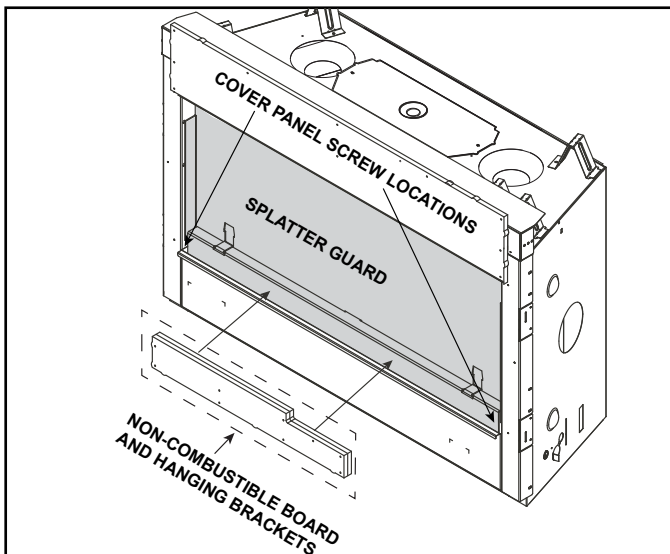
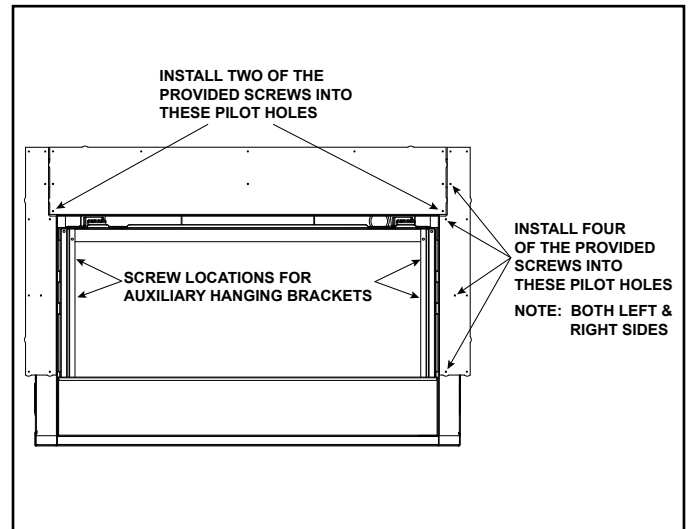
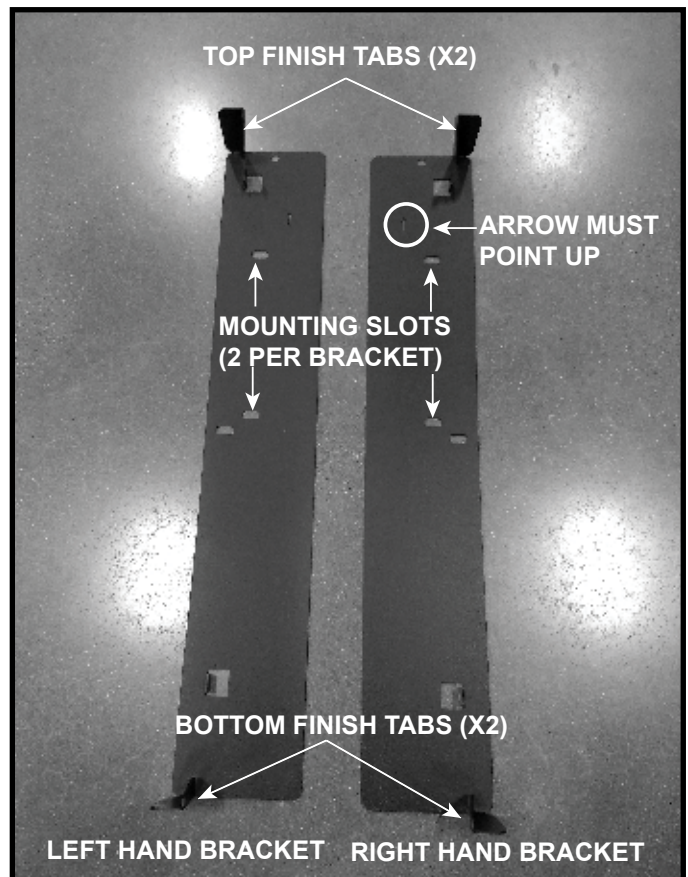

Figure 6.7 Shipping Position - Non-Combustible Sides and Auxiliary Hanging Brackets
Figure 6.8 Installation of the Side Non-Combustible Components
Figure 6.9 Auxiliary Hanging Brackets - Bent For Installation
This model ships with the required top, left and right non-combustible board. The top non-combustible board has been pre-installed at the factory with three screws. The left and right side non-combustible boards are shipped next to the non-combustible board inside the cardboard splatter guard in front of the appliance. See Figure 6.7.
4. Further secure the top non-combustible board by installing screws into the pilot holes located in the upper left and right corners of the top non-combustible board as shown in Figure 6.8.
5. Install the left and right non-combustible components with four of the provided Phillips screws. See Figure 6.8. After all non-combustible material has been installed, remove the small package of sheet metal screws from the manual bag. Reinstall the lower cover panel. Be sure to "hook" it onto the appliance. Use two screws from the package to fasten the top sides of the cover panel to the appliance. The holes from the cover panel should align with the holes in the sides of the appliance. See Figure 6.7.
The left and right auxiliary hanging brackets are shipped next to the non-combustible board in the cardboard splatter guard in front of the appliance. See Figure 6.7.
2. Bend the brackets as shown in Figure 6.9.
3. Using the shoulder screws included in the manual bag, attach the auxiliary hanging brackets onto the appliance as shown in Figure 6.8 using the mounting slots referenced in Figure 6.9. Pull the brackets away from the appliance to aid with finishing material installation.